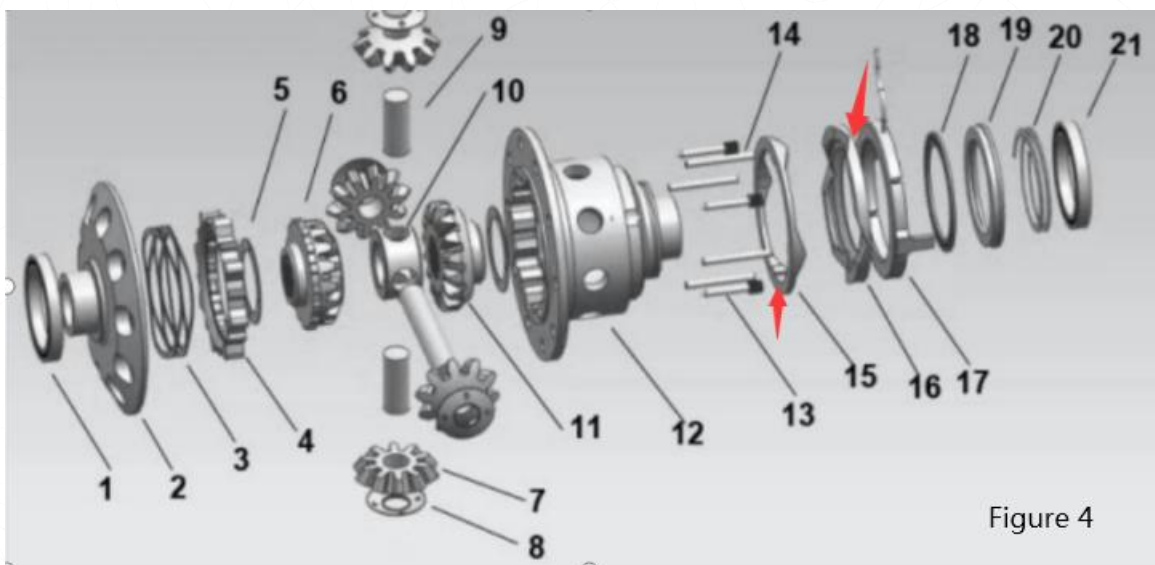

Figure 4
Tighten the ring gear bolts in a star pattern with a torque wrench according to your vehicle (Fig.4) manufacturer's specified torque.
Step 4. Check whether the ramp plates (part 15, part 16 ) are deformed or not. if they are deformed, please use the sandpaper to sand the pointed side of part 15 and part 16 (Picture: Figure 4)